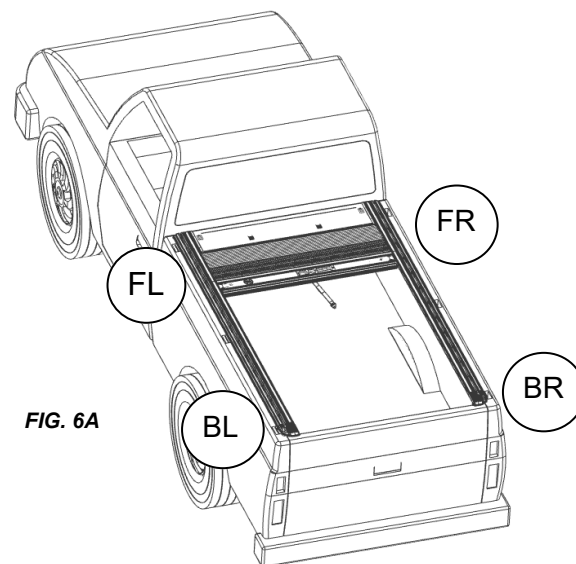

FIG. 6A
Slide the clamp extensions on the tailgate and cab end of each rail as pictured in Figure 6A-6E. Ensure that your tailgate end and cab end extensions are in the correct orientation and have the correct stick on shims. Each clamp extension is labeled for front left (FL), front right (FR), back left (BL), and back right (BR). The extensions go on the corners shown in figure 6A.